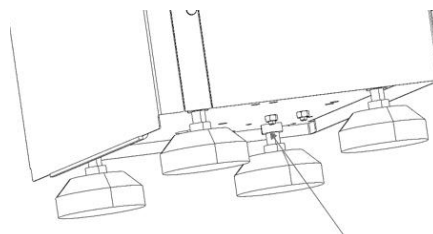

FIG.4
To adjust the height and the levelness of the charging station, the operation can be taken as shown in FIG. 4.
- 1) Loosen the nut indicated by the arrow in Figure 4.